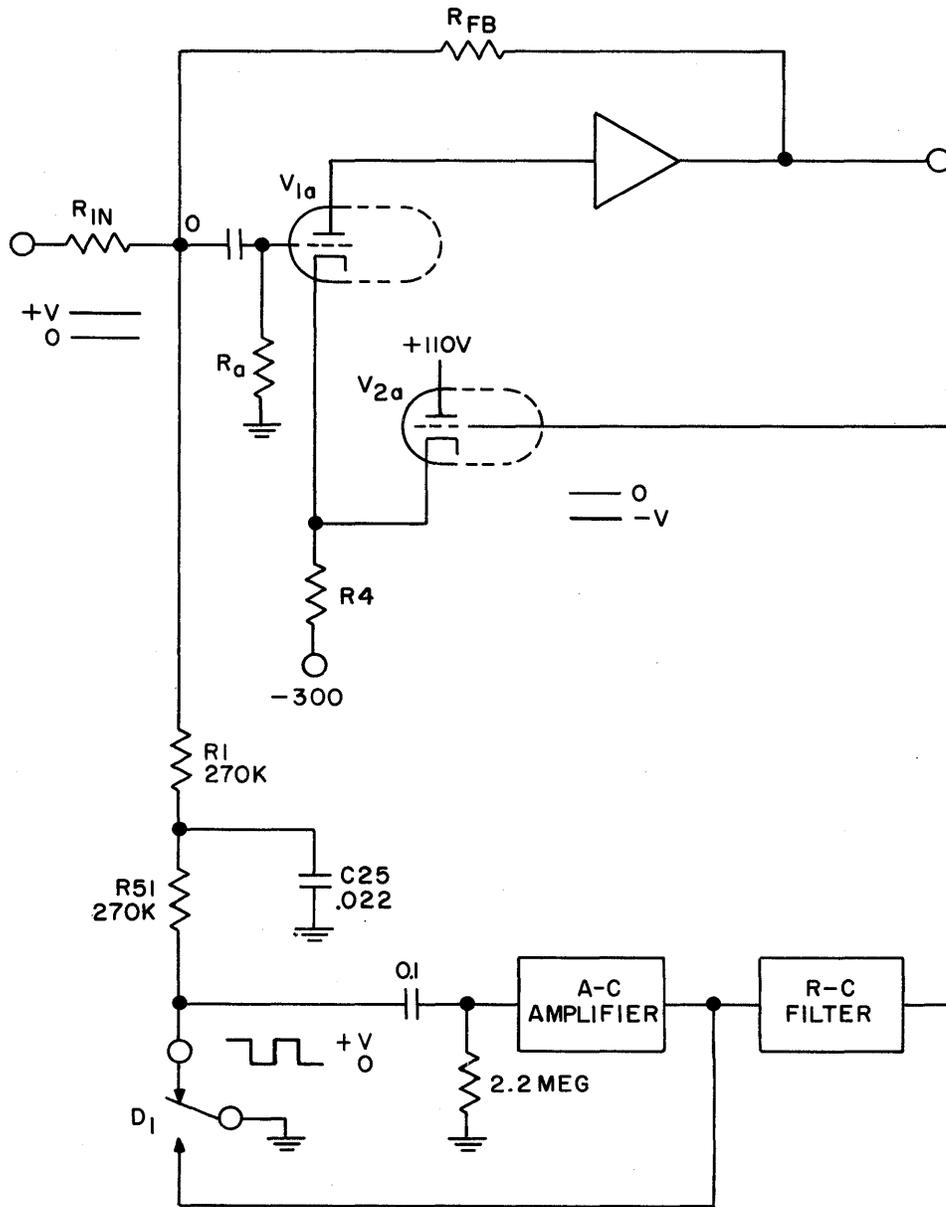

Figure 7. Amplifier Stabilizer Operation.
**b. Stabilizer Circuit.** The automatic balancing circuit of the d-c amplifier consists of the synchronous vibrator D1 and the triode-pentode tube V6 (type 6AW8). The purpose of this section is to compensate for drift in the d-c portion, *automatically*. Output of the stabilizer is applied to the second grid (V2a) of the differential input stage of the d-c amplifier. Refer to figure 7 which shows the way the stabilizer is connected. The summing point 0 must be maintained essentially at zero potential by the amplifier. Any variation of the output voltage above or below the required value causes point 0 to become slightly positive or negative. This voltage change is coupled through the low-pass filter to the contact of chopper D1. For the purpose of the following explanation assume that the voltage at the output of the d-c amplifier rises slightly. This is referred to as a positive drift. Point 0 becomes slightly positive and this voltage is chopped at a 94 cps rate by D1 and applied to the input capacitor of the stabilizer section in the form of a square wave. The square wave is amplified by